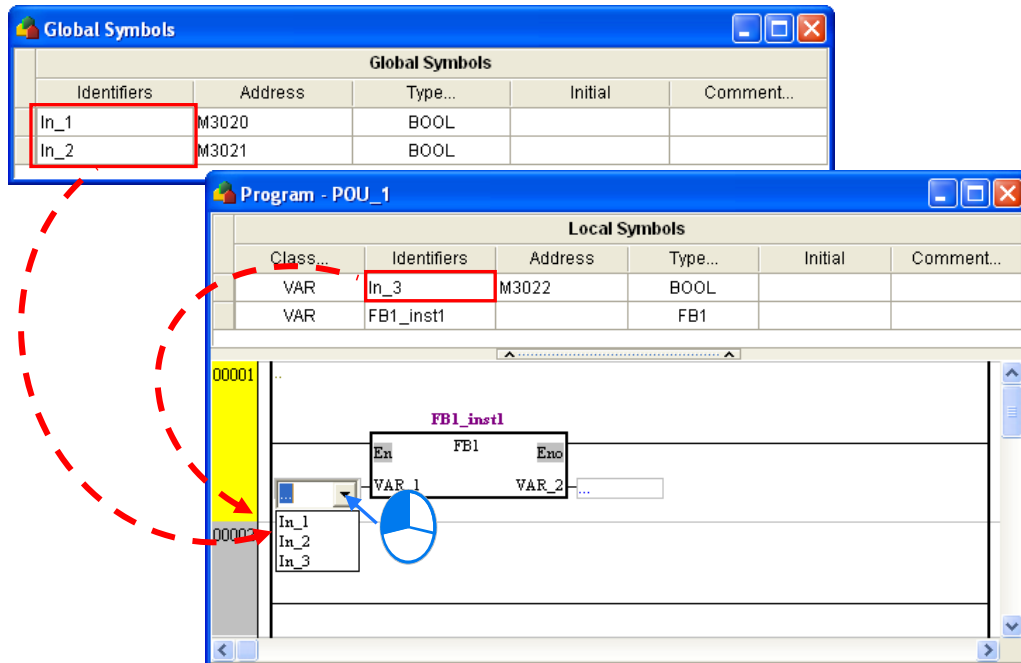

Figure 13-29 Selecting a symbol which has been declared for a pin
- (1) If users have declared symbols in the global symbol table or in the local symbol table in a POU, a drop-down list on which there are symbols whose data types are the same will appear after the users click a pin of a function block in the POU. Please see figure 13-29.